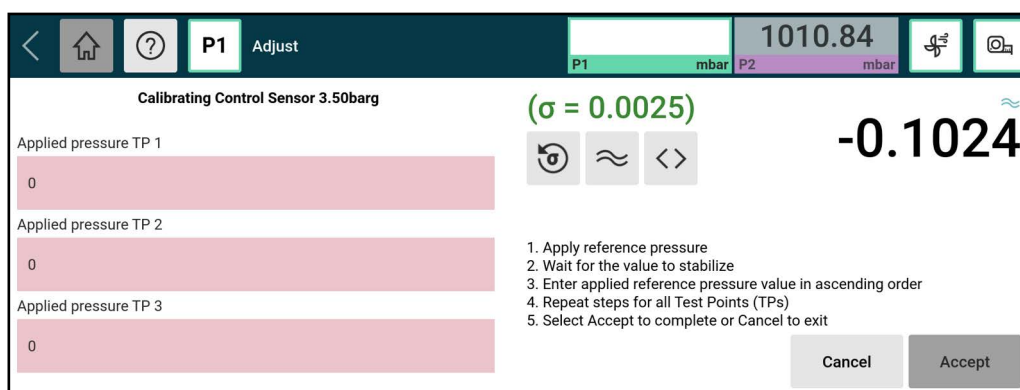

Figure A-10: Sensor Adjust Screen
- **Adjust** - opens the **Adjust** screen for the selected sensor. See Figure A-10.
Figure A-10 shows the sensor **Adjust** screen that you use to calibrate the pressure sensors. To find this screen, select the **Settings** icon, then **Calibration** and enter the calibration PIN, then select **Sensor Correction** and select the sensor to be calibrated. Finally select **Adjust**.